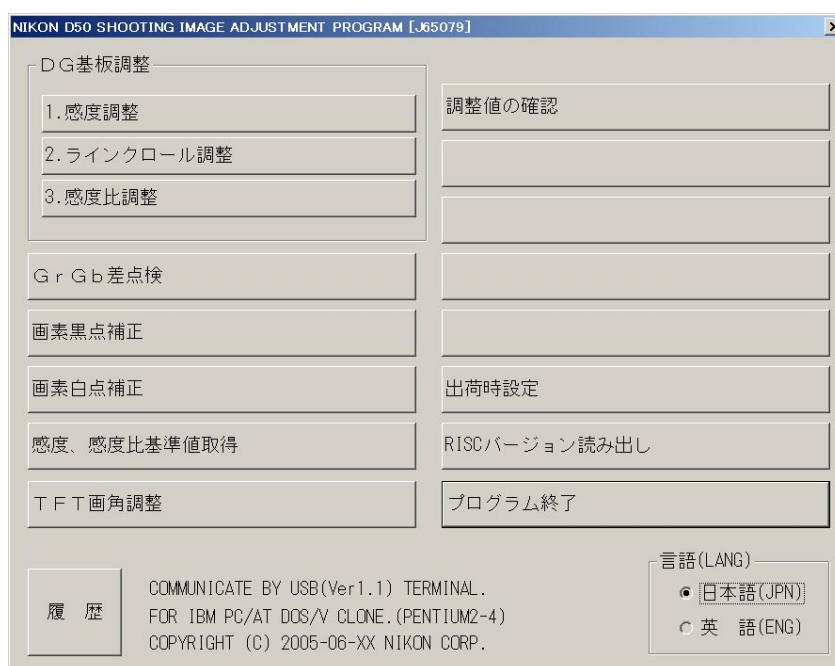

Fig.2
- (2) Select ENGLISH / JAPANESE in Language to display the expected menu. (ref. Fig.2)
- (3) Click the desired button to start adjustments.
- ※ When the adjustments from 1. to 3. are made, calculate to get the “Sensitivity” and “Sensitivity ratio” reference values of (7) by using the reference body beforehand, then perform the adjustments.
- (4) Follow the instructions to be displayed on screen.
- (5) To complete the procedure, click "QUIT" button or "Close" button at the upper-right corner of the menu.